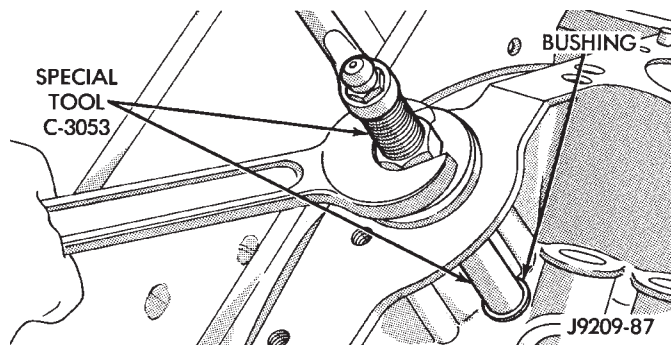

Fig. 40 Burnishing Distributor Driveshaft Bushing
(3) As the burnisher is pulled through the bushing, the bushing is expanded tight in the block and burnished to correct size (Fig. 40). **DO NOT ream this bushing.**